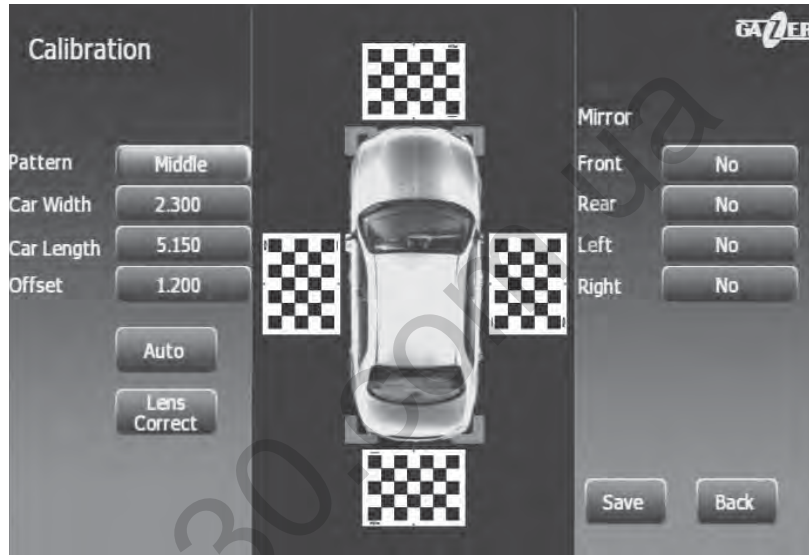

Fig. 9
5. After adjusting the camera view, go back to the previous menu using the “Back” button on the remote control. Enter L (Length), W (Width), P (Pan) values in the corresponding fields in accordance with your data and then select “Auto” (Fig. 9) in the menu. In case calibration was successful, you will see a panoramic “plan” view of your car without any blind spots (Fig. 9).